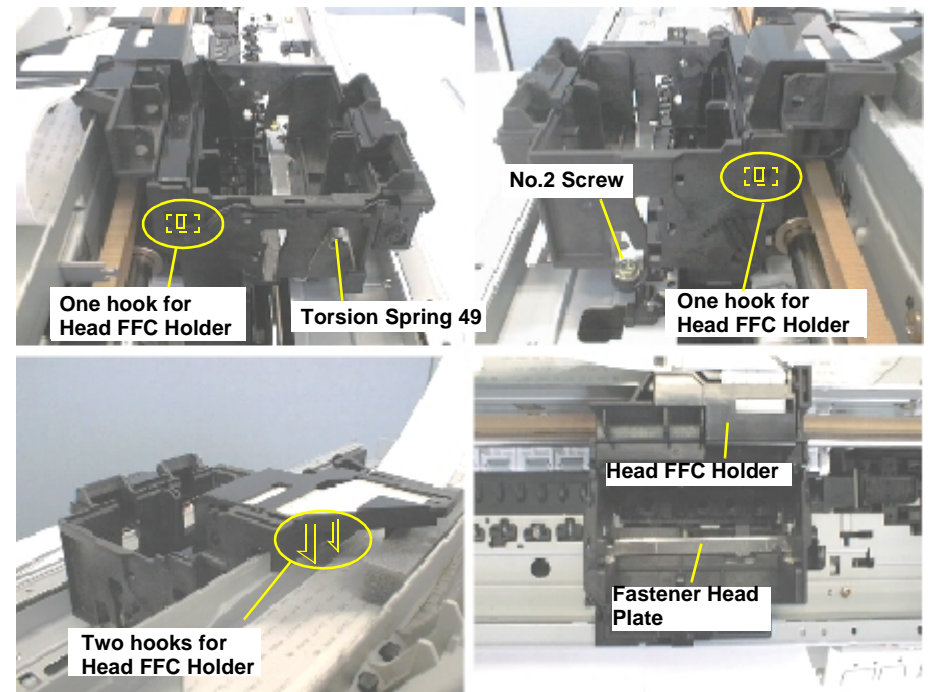

Figure 4-7. Removing the Printhead
- 5) Remove the Torsion Spring 49 from the left side of the CR Assembly and one screw (No.2) securing the Fastener Head Plate. Then take out the Fastener Head Plate. Refer to Figure 4-7.
- 6) Remove the Head FFC Holder from the CR Assembly by releasing four hooks. (Two hooks; Left/Right sides of CR unit, Two hooks; Back side of the CR unit) Refer to Figure 4-7.